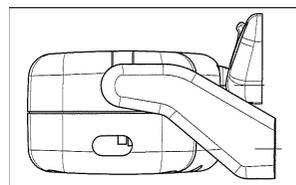

Figure 2
- A. Pencil in an "X" over the centre line of the window frame (Fig. 2).